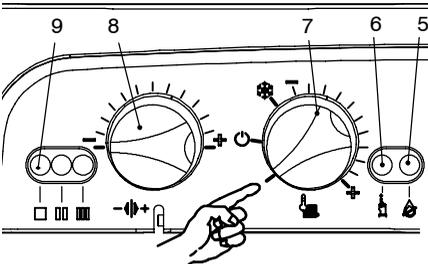
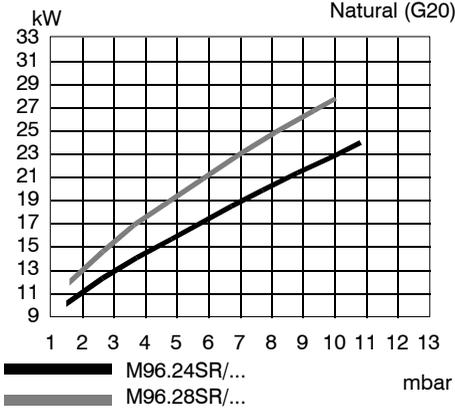
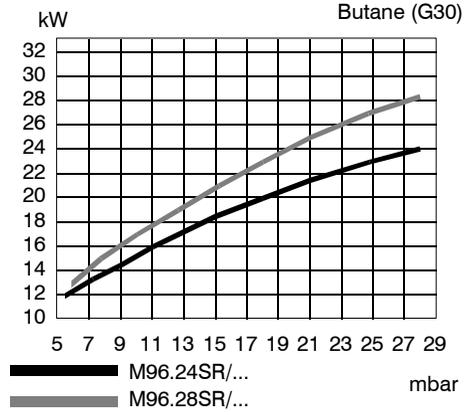
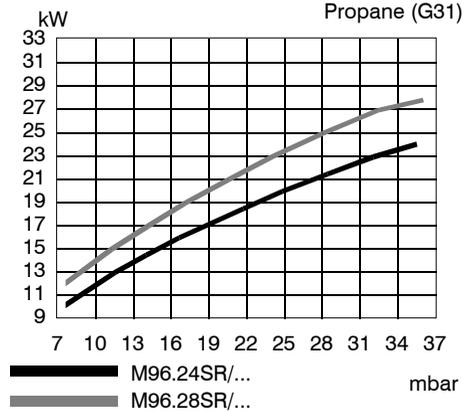

Fig. 7.6
Fig. 7.11
Fig. 7.12
Fig. 7.13
Refer to Fig. 7.11, Fig. 7.12 and Fig. 7.13 (depending on the gas used) and determine the correct burner pressure appertaining to the output required for the central heating requirement.
- 3 Rotate the service and installation knob 8 as in Fig. 7.6.
- 4 Turn the boiler ON positioning the function selector 7 as indicated in Fig. 7.6 and ensure that the timer selector switch and room thermostat, if fitted, are set to "heat demand".
- 8 Rotate the service knob 8 in Fig. 7.6 to obtain the pressure to the burner to meet with the central heating system requirements. Refer to the diagrams shown in Fig. 7.11, Fig. 7.12 or Fig. 7.13